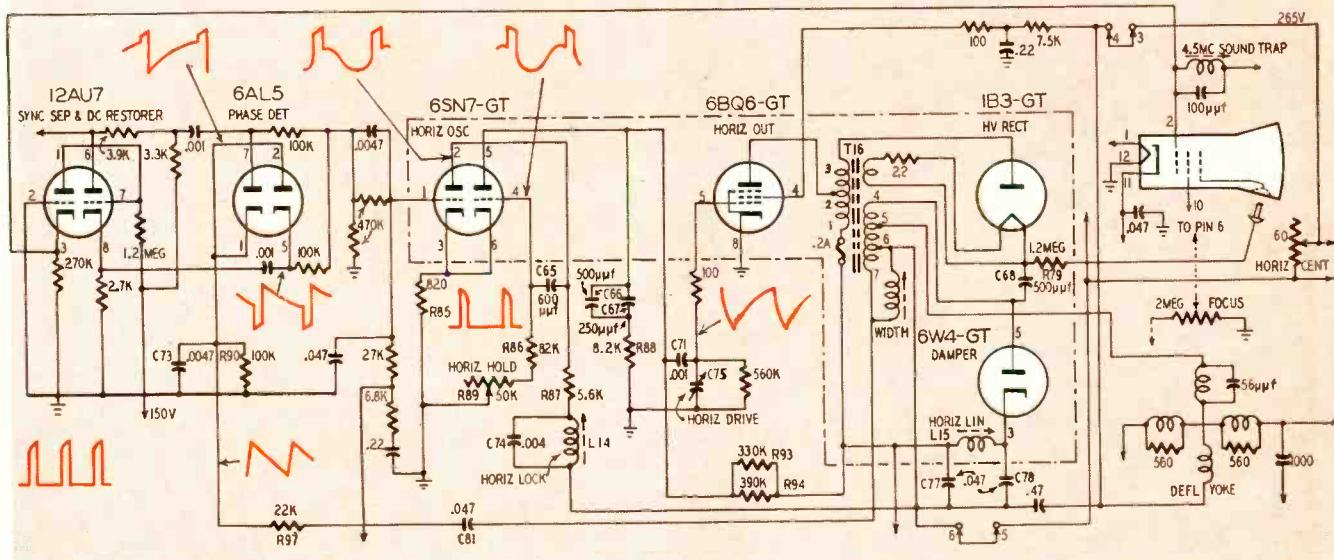

Fig. 1—Schematic diagram of the horizontal section of Sentinel model 438 XD chassis. Waveforms are shown throughout.
Other possible defects include: change of resistor values in the charge circuit, or change in the value of charging capacitor; defective vertical output transformer; open capacitor in the decoupling circuit of the output stage (C8, Fig. 1); change of resistor value in either decoupling circuit (R9 or R13, Fig. 1); defective yoke (ferrite core cracked).
If the fault has been present from the beginning, check the manufacturer's field modifications for the particular model. Some common methods for increasing height include: Boosting B plus with new (or a more efficient type of) low-voltage rectifier tube; using a 6Y6-G instead of a 6K6-GT as the vertical output tube in converted 630 type sets where the filament supply permits this (the 6Y6-G filament takes 1.25 ampere, about three times the current of the 6K6-GT); lowering the value of the fixed resistor in the charge path (R7, Figs. 1, 2) to two-thirds or one-half the original value; changing the two-winding vertical output transformer connections to make it function as an autotransformer (Fig. 5).
8. Keystoning. (Picture becomes narrow at the right or the left side.) Keystoning is caused by a short or partial short in one section of the vertical deflection coil (yoke) or a defective damping resistor (R14, R15, Fig. 1).
Starting with the horizontal phase detector circuit, let us examine the high points of the horizontal section (Fig. 1). Two voltages are fed into the 6AL5 balanced phase detector. They are the incoming signals' horizontal sync pulses and the horizontal reference feedback voltage. These two voltages are compared in phase, and the d.c. voltage developed is applied to the control grid, pin 1 of the 6SN7-GT horizontal oscillator. The d.c. voltage varies the plate resistance of the tube, keeping the oscillator from going out of synchronization.